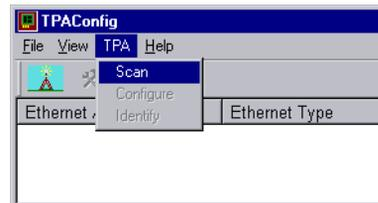

Figure 2-4 TPA Configuration
1. Start the Ethernet Configuration Utility from the **Start** menu. The window shown in Figure 2-4 is displayed.